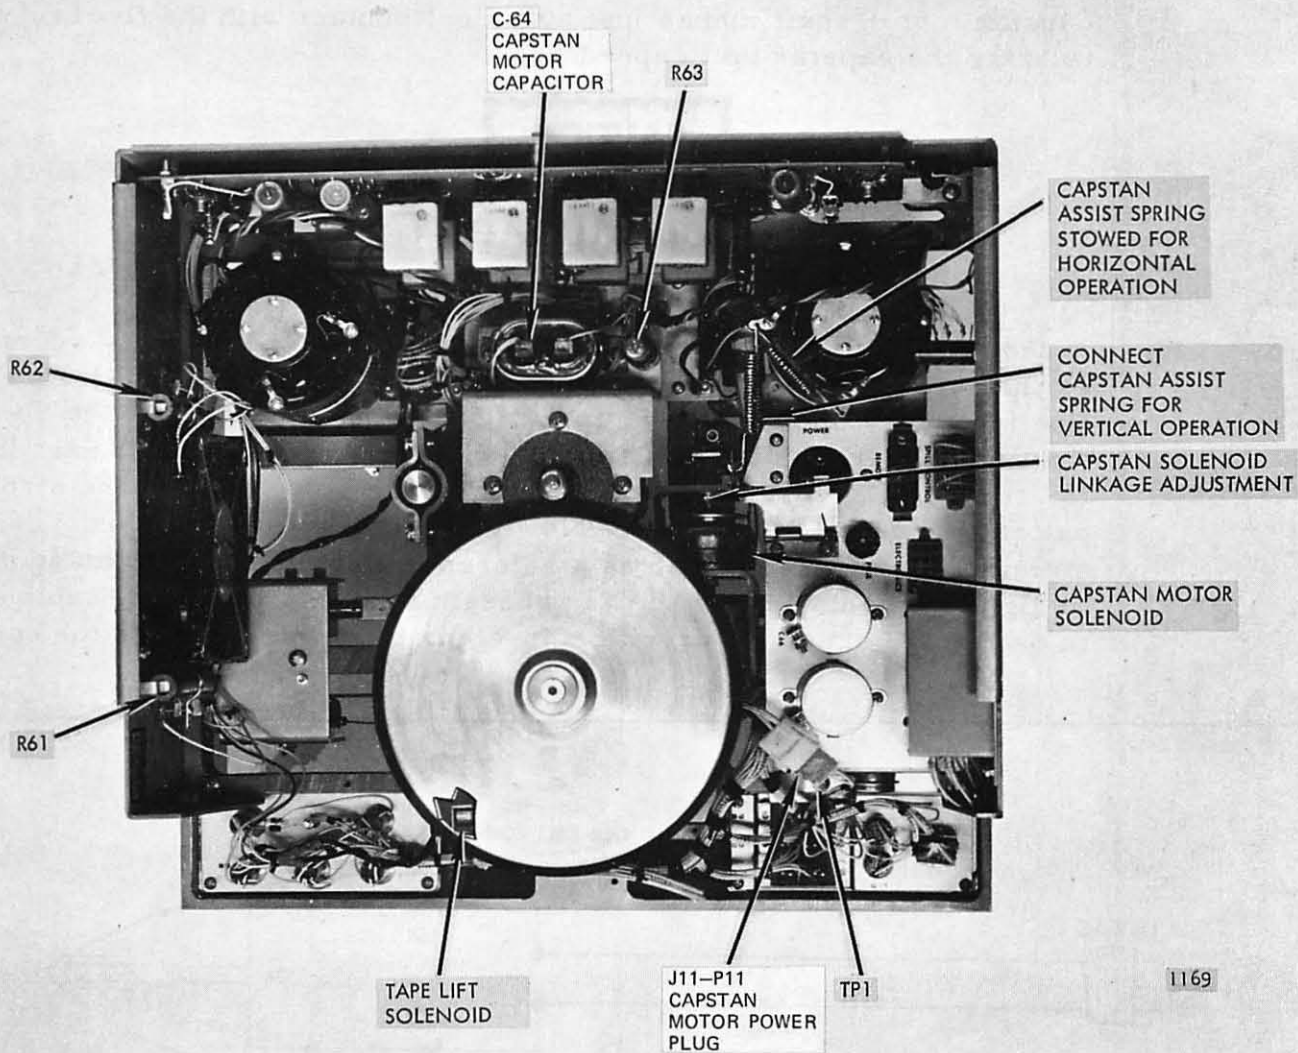

Figure 24. Tape Transport Adjustments, Bottom View
9. Check the adjustment of the nut on the capstan motor solenoid coupling rod (figure 24) so that, when energized (by the tape sensor mask), the capstan motor shaft makes just sufficient contact with the flywheel tire to bring the capstan up to speed.
44. The tape lifters must swing out fully whenever the tape is in REWIND or FORWARD mode, or in the process of stopping. When released, they must fall back fully so as not to interfere with normal tape motion over the heads. Test their action at the start of a reel, in the center of a reel, and at the end of a reel to be sure they always operate fully and release fully. Check that they do not chatter when the tape reverses direction between FORWARD and REWIND modes. The tape lifters are adjusted by loosening the screw in the end of the shaft, and changing the position of the tape lifter solenoid plunger with respect to the lifter. This can be accomplished from the underside of the transport as shown in figure 24.